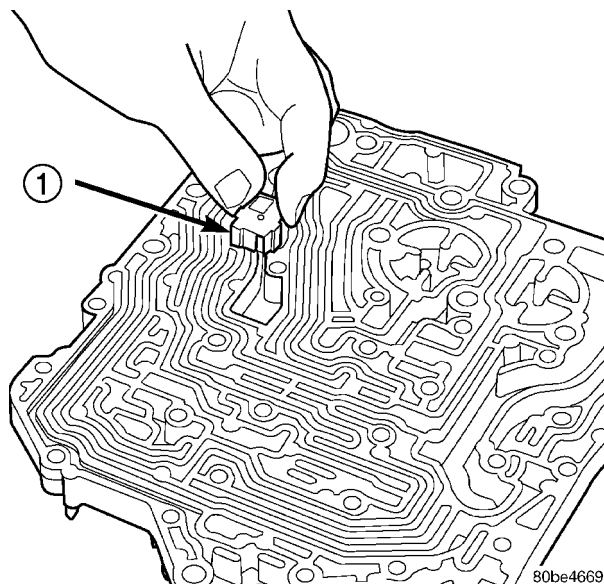

Fig. 361 Install Thermal Valve
(6) Install thermal valve into transfer plate (Fig. 361).